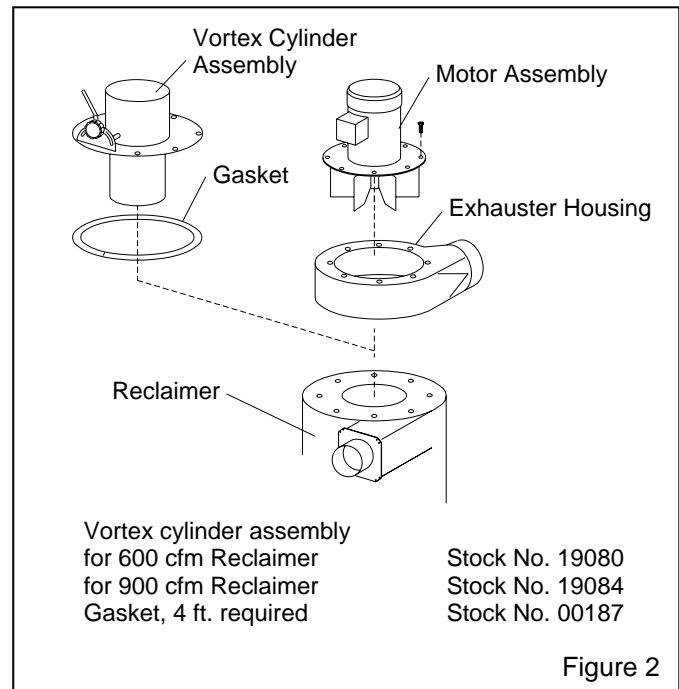

Figure 2
**2.1 Push-Through Reclaimer Conversions, (exhauster mounted on reclaimer), Figure 2**
NOTE: If the dust collector replaces an existing filter bag or dry filter, the reclaimers must be converted to a "pull-through" style. If a conversion is required, a vortex cylinder and gasket must be ordered (stock numbers shown in Figure 2) to replace the existing exhauster. If the reclaimers are already a "pull-through" style, skip to Section 2.2.